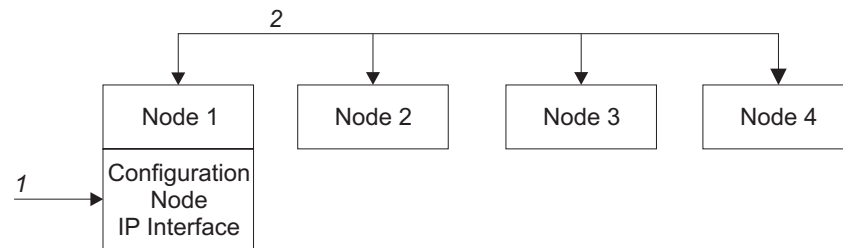

Figure 1. Configuration node
Figure 1 shows an example cluster containing four nodes. Node 1 has been designated the configuration node. User requests (1) are targeted at Node 1.